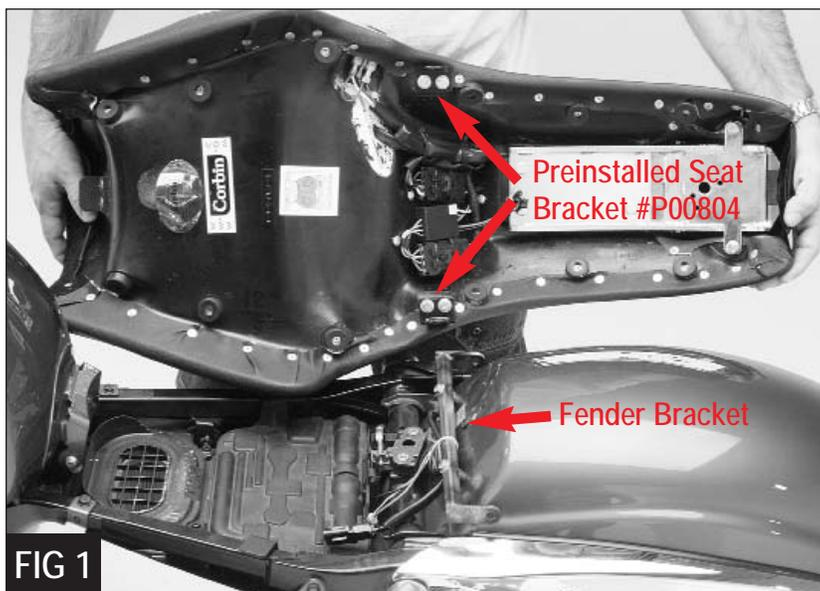

FIG 1
2. Figure 1 shows a heated model in a ready to install state. Begin your installation by attaching the included seat bracket to the front of the fender with the two included 6m hex head bolts and matching flat washers. We recommend using loctite®. Align the bracket as shown in Figures 1 & 4 with side arms parallel to the ground and tighten to 8 ft. lb.